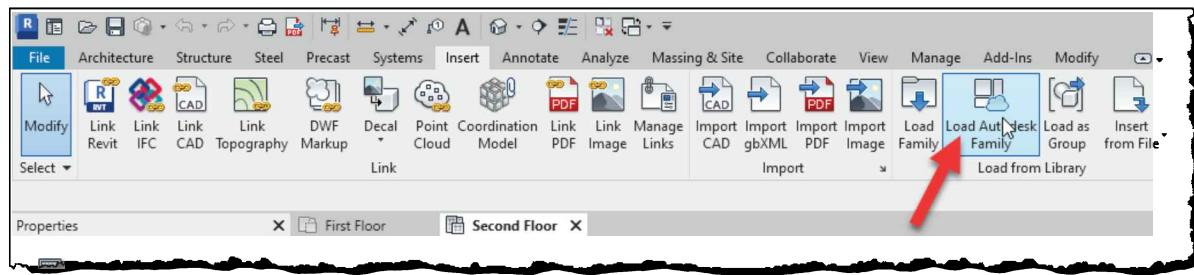

FIGURE 9-3.1 Load Autodesk Family tool on Insert tab
2. Select **Insert → Load Autodesk Family** on the *Ribbon* (Figure 9-3.1).